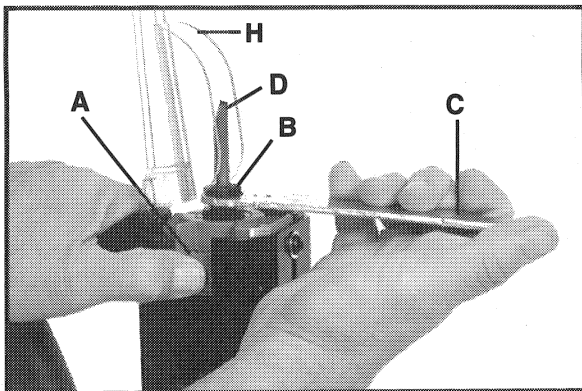

Fig. 4
4. Depress spindle lock (A) Fig. 4, and rotate collet nut clockwise by hand until lock engages hole in motor spindle.